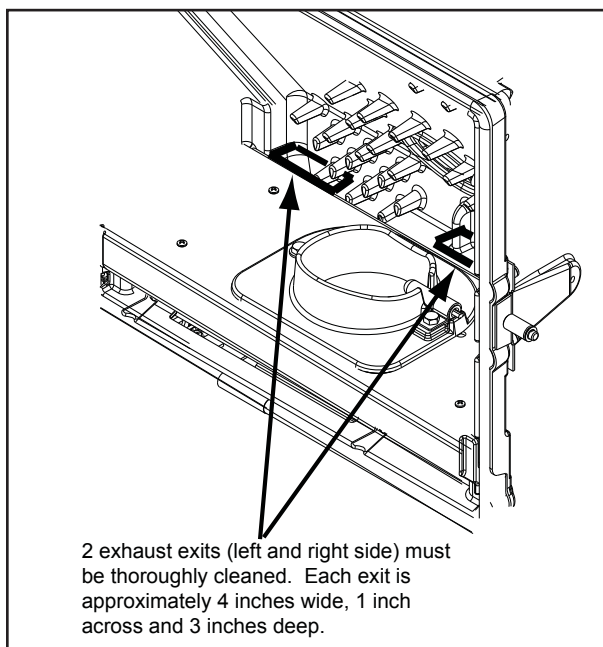

Figure 36.2
- d. Use the crevice tool to finish cleaning the heat exchanger fins. It is critical that the 2 exhaust exits at the back of the firebox floor (left and right) be thoroughly cleaned. **Figure 36.2.** There are several ways this can be done.